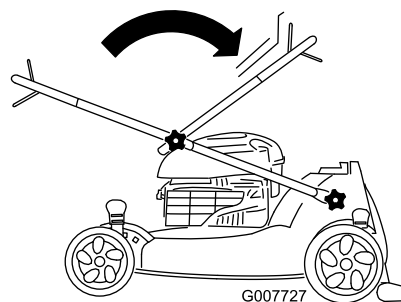
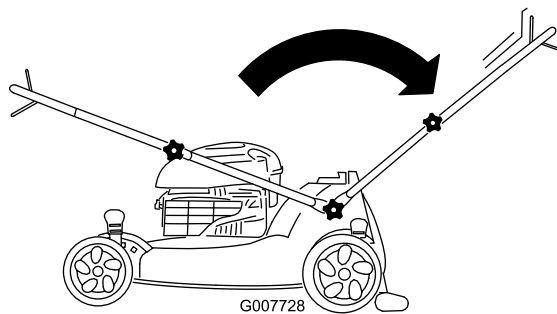

Figure 3
Figure 4
1. Unfold the handle as illustrated in Figure 3 and Figure 4.